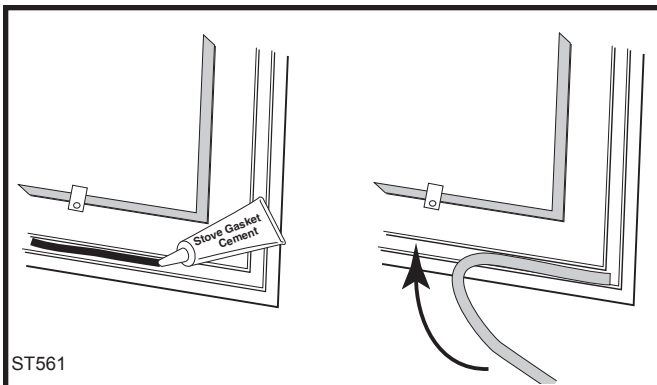

Fig. 42 Lay a bead of gasket cement then press gasket in place.
5. Lay an unbroken 1/8" (3 mm) bead of gasket cement in the newly-cleaned channel. (Fig. 42)